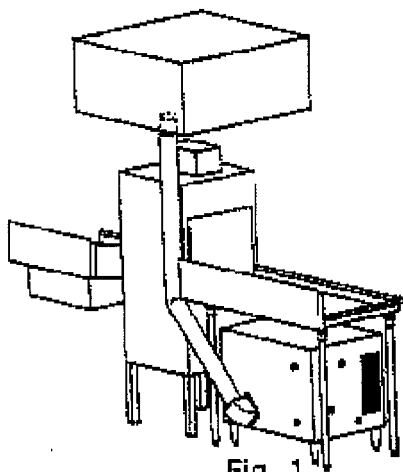
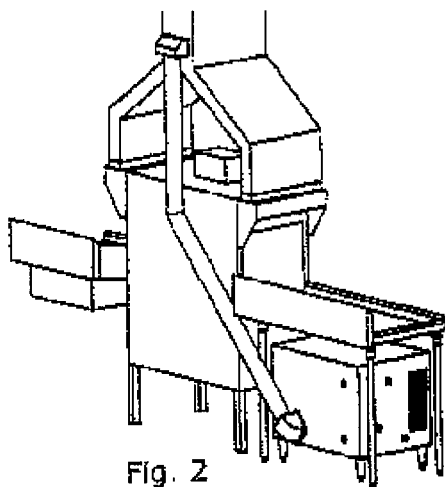

Fig. 1
Fig. 2
1. Into the dishwasher exhaust system. (See fig. 1). The vent pipe must not penetrate any grease filter, but should terminate within the hood "capture zone". In cases of a "pantleg" type of vent (see fig. 2), the vent pipe may terminate below an approved "eyebrow" hood with a 2" diameter hole through the duct wall under the "eyebrow". See "E-Z-Vent" detail. When vented into the dishwasher exhaust system, an electrical interlock must be provided (by factory or others) and installed to prevent the appliance from firing if the exhaust system is not providing sufficient draft for any reason. (refer to National Fuel Gas Code)